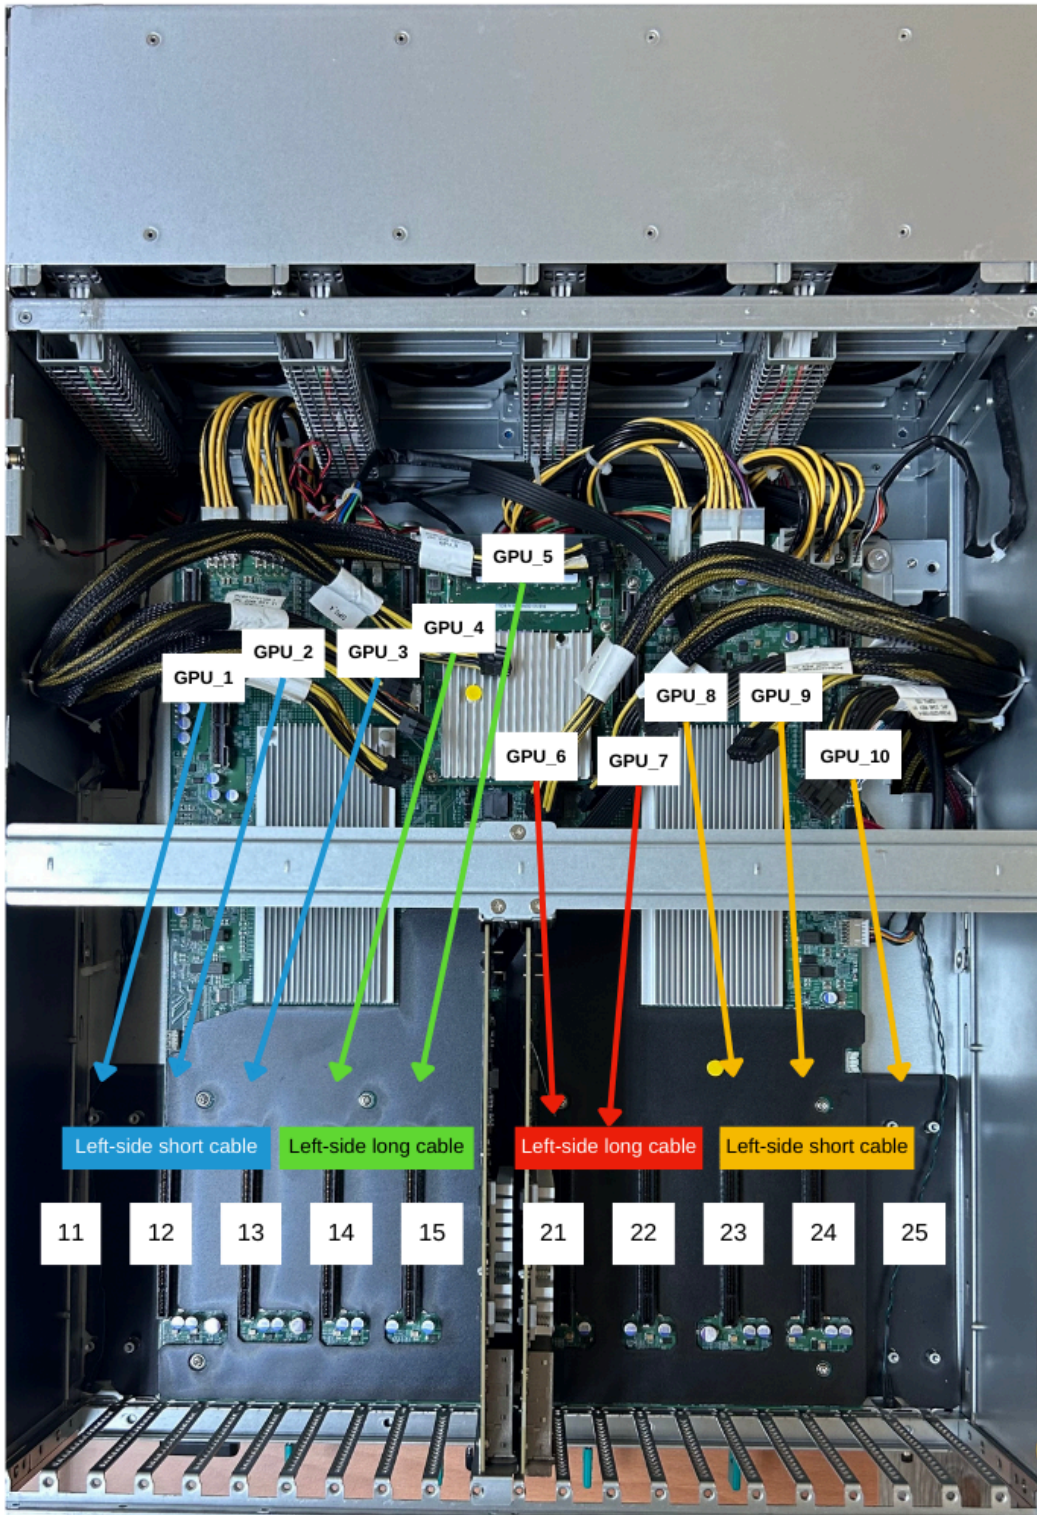

Figure 34. GPU Power Cable Connections and Label Mapping
2. GPU power cables (refer to Figure 34 for cable descriptions).